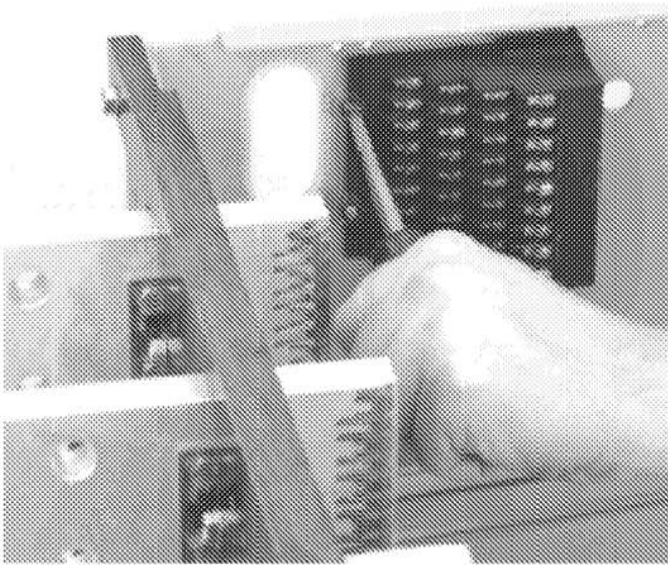

Figure 5. Installing the screws and spacers holding the Secondary Disconnect block against the enclosure side wall.
3. With a 5/16 inch nut driver or socket, insert the two #10-32 thread forming screws through the two spacers, as illustrated in Figure 5. Torque the screws to 50 lb-in. The spacers prevent the screws from being tightened down against the plastic block.